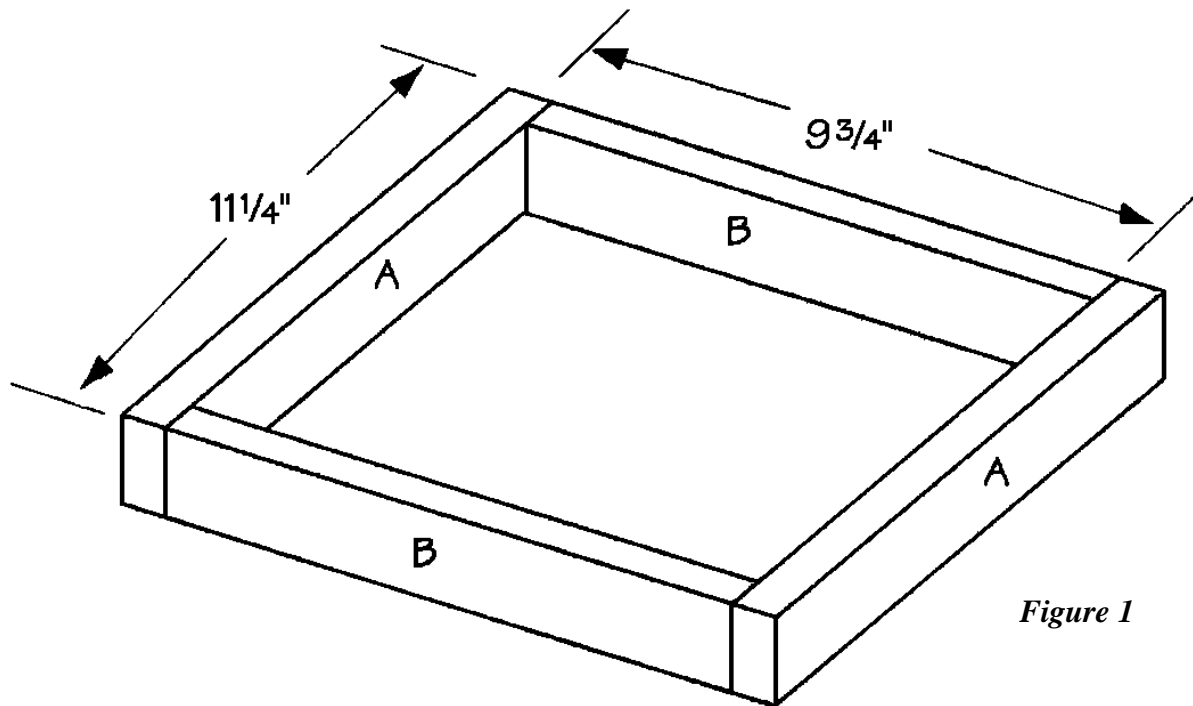

Figure 1
1. Because it is made of relatively thin plywood, the pedestal requires inner supports. Cut six long supports (A) from 1 x 2 pine, each measuring 11-1/4" long.
2. Cut six short supports (B) from 1 x 2 pine, each measuring 9-3/4" long.
3. Place two long supports (A) on a level surface, parallel to each other and 9-3/4" apart. Fit two short supports (B) between the ends of the two long supports (A), as shown in *Figure 1*. Screw the long supports (A) into the ends of the short supports (B), using two 1-1/2" screws on each joint.